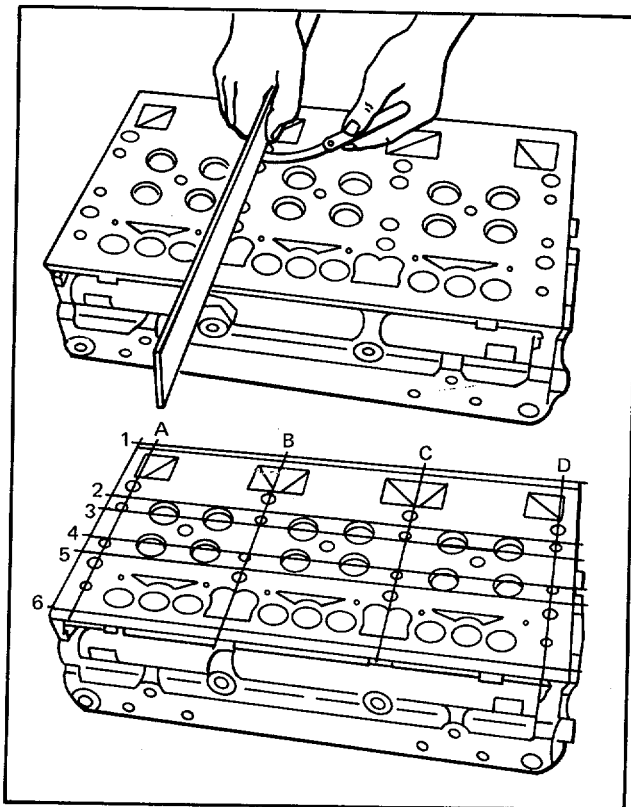

Figure 3. Checking Bottom Face of Cylinder Head for Warpage
a. Use a heavy, accurate straightedge and feeler gages, tool J 3172, to check for transverse warpage at each end and between all cylinders. Also check for longitudinal warpage in six places as shown in Fig. 3. Refer to Table 1 for maximum allowable warpage.